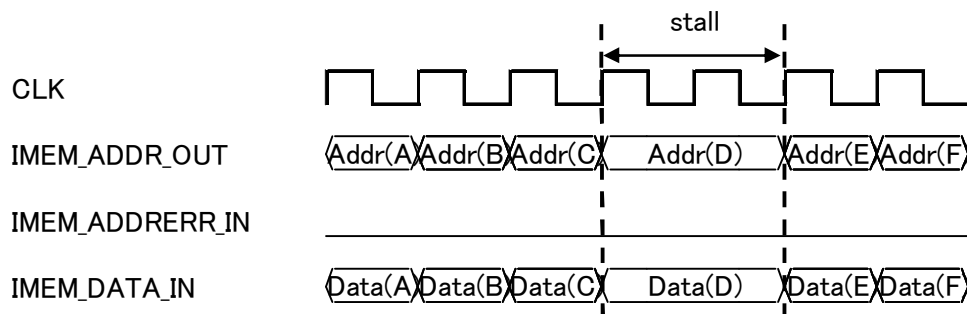

Figure 2 Instruction memory read access
Figure 2 illustrates the timing of read access. The data of the address need to be determined within the cycle of the fetch address transmission. Since the fetch address is fixed while some factor is stalling the pipeline (Addr(D) in the figure), the fetch data need to be retained for the duration.